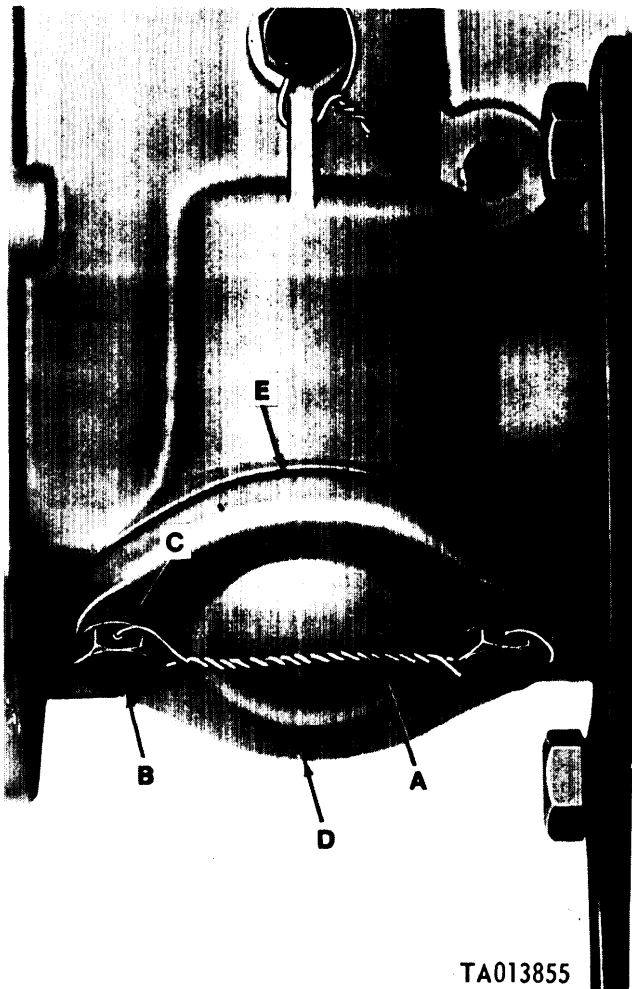

Figure 3-25. Removing quill shaft pad cover.
3-15. Removal of Quill Shaft Assembly. *a.* Refer to figure 3-25. Cut locking wire (A) if present. Remove two capscrews (B), copper gaskets (C), and quill shaft pad cover (D). Discard copper gaskets. Remove and discard cover gasket (E).